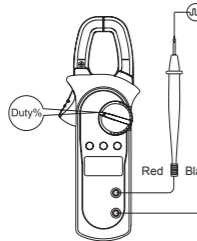

Figure 8
F. Measuring Duty Cycle(See Figure 8)